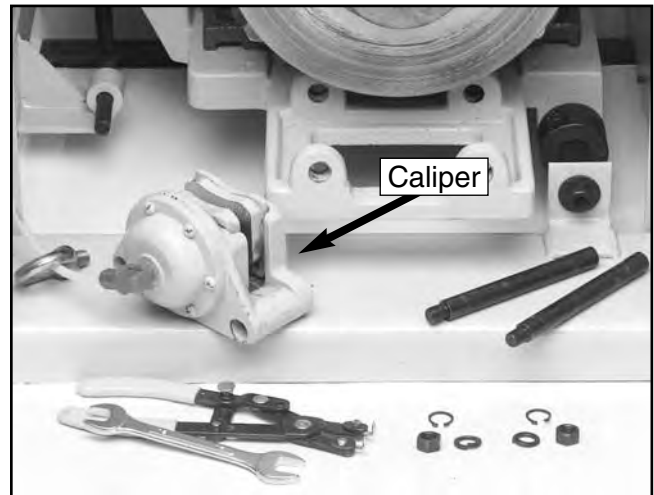

Figure 15. Disc brake components.
3. Pull the mounting pins out of the caliper bracket and remove the air line from the caliper. The caliper should now be able to be removed as in **Figure 15**.